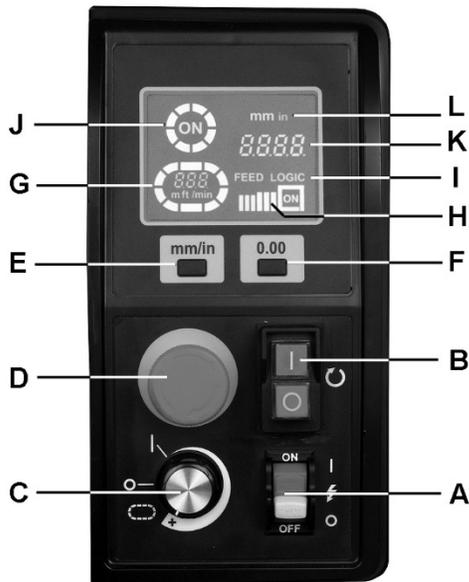

Figure 16
Figure 16 shows control panel functions.
Lower drum until it just contacts workpiece, then push zero depth reset button (F, Figure 16) to zero the setting of drum height from workpiece. The handwheel is then used to lower the drum in exact increments for each pass, by viewing the depth on the control display (K).
Press E-stop button (D, Figure 16) to shut down all machine operations. When E-stop is pressed, drum motor stops and “ON” (J) goes dark on display. Conveyor motor also stops, and racetrack (G) flashes.
IMPORTANT: The E-stop remains engaged until it is rotated clockwise for release. Also, the conveyor speed dial (C, Figure 16) must be returned to OFF position before restarting machine.
The Feed Logic control continuously monitors the load on the drum motor, and automatically regulates the speed of the conveyor motor to maintain highest feed rate without overload. When “Feed Logic” flashes and “ON” illuminates on the display (I, Figure 16), the Feed Logic control has detected too great a depth of cut and/or too fast a feed rate.